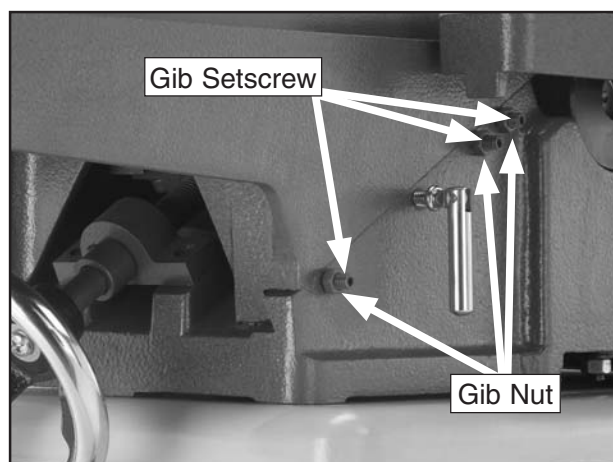

Figure 50. Outfeed table gib controls.
1. Using a 12mm wrench, loosen the outfeed table gib nuts on the side of the jointer base (**Figure 50**).